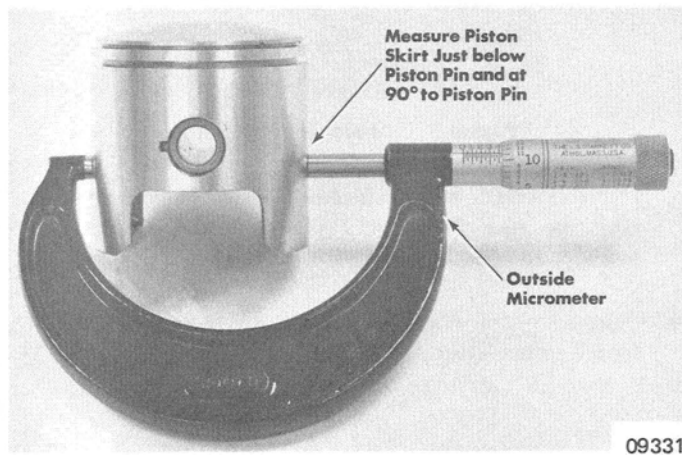

Figure 9. Measuring Piston
3. Measure piston at MIDDLE of piston skirt, just below piston pin, and at a right angle (90°) to piston pin. (Figure 9)
6. Refer to "Fitting Cylinders to Pistons", preceding (Figure 9), and check "fit" between piston and cylinders. If "Piston Skirt Clearance" exceeds specifications, piston may be worn and replacement will be necessary.